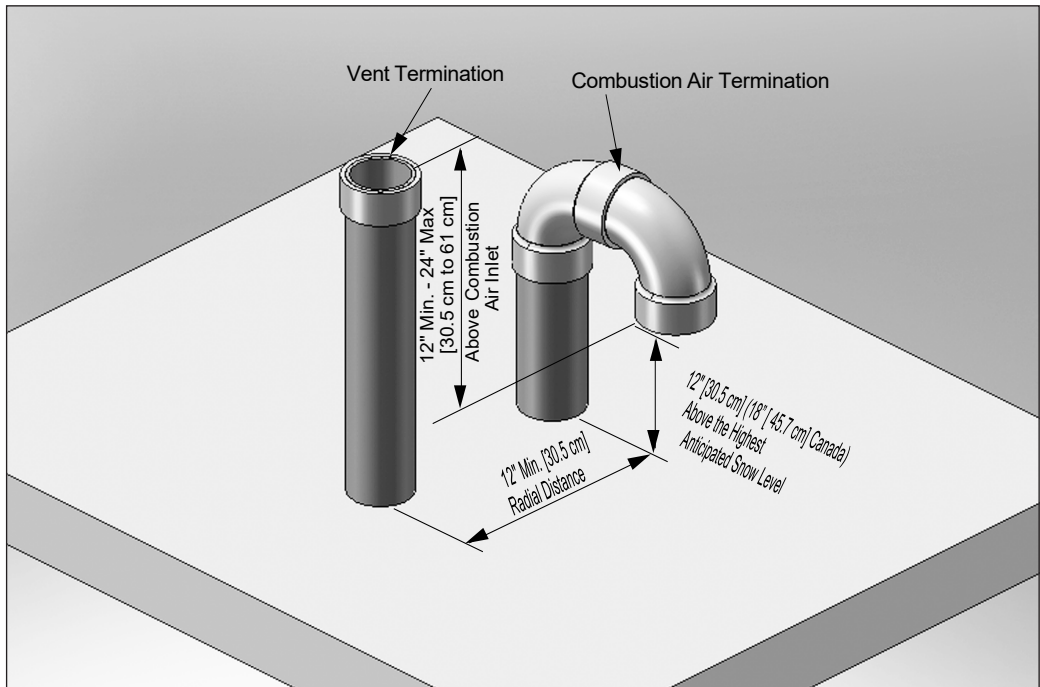

Fig. 1 - Direct Vent - Vertical Termination of Vent and Combustion Air Piping.
2. The combustion air piping must terminate in an upside down “U” shape fashion using two 90° elbows, as shown in Fig. 1 on page 12. The termination must be located 12” [30.5 cm] (18” [45.7 cm] in Canada) above the highest anticipated snow level.
3. The vent piping must terminate vertically with a coupling to accept the bird screen and must be located 12” to 24” [30.5 cm to 61 cm] above the combustion air inlet as shown in Fig. 1 on page 12.
4. The vent and combustion air terminations must be located at a radial distance of 12” to 24” [30.5 cm to 61 cm] from centerline of vent termination to centerline of air termination as shown in Fig. 1 on page 12.
3. Locate the vent and combustion air pipe penetrations to provide clearances as described in Fig. 1 on page 12.
2. The combustion air piping must terminate in an upside down "U" shape fashion using two 90° elbows as shown in Fig. 1 on page 12.
3. The vent piping must terminate vertically with a coupling as shown in Fig. 1 on page 12.
Do not extend the vent pipe above the roof beyond the dimensions shown in Fig. 1 on page 12. Extended exposure of the vent pipe could cause condensate to freeze and block the vent pipe, resulting in substantial property damage, serious injury, or death.